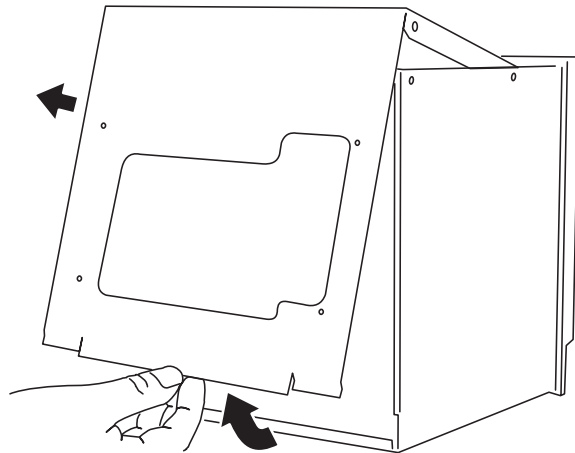

Figure 10.1b Remove cover
3. Once all the fixings have been removed, the cover can be removed by lifting its bottom edge upwards and outwards (figure 10.1b).
2. Cut the cable tie (figure 10.1b, above) which secures the fan harness to the chassis.